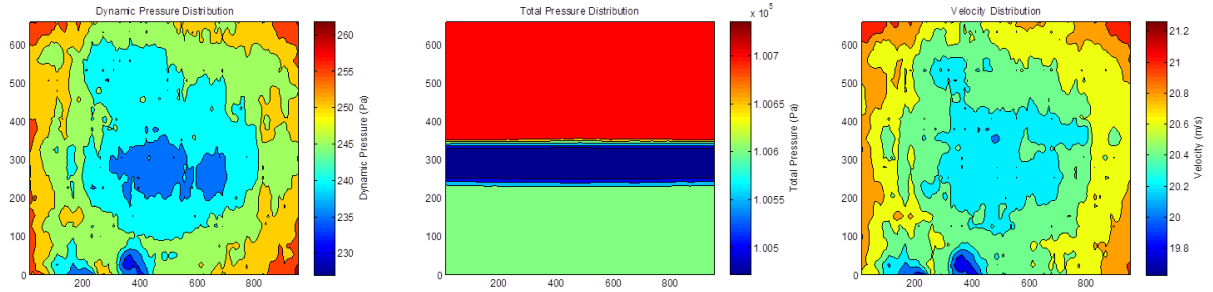

Figure 1: Flow contours of (from left to right) dynamic pressure, total pressure, and velocity.
- For each freestream dynamic pressure setting, plot the total pressure, dynamic pressure, and velocity contours across the wind tunnel test section. Examples of contour plots required are shown in Figs. 1 and 2. (20 points)